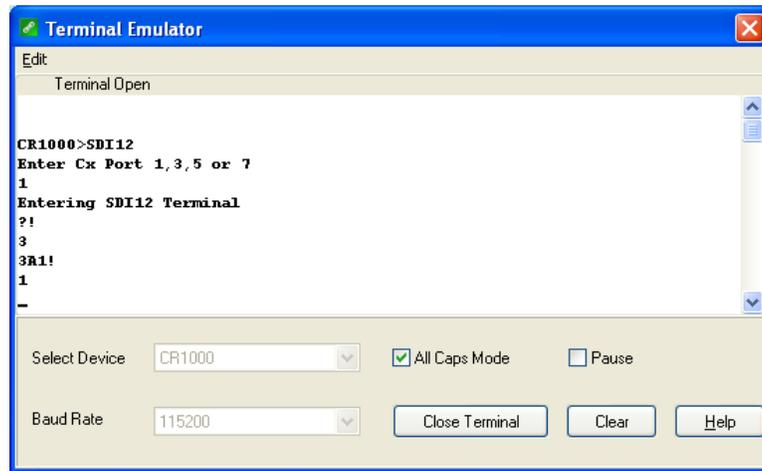

FIGURE D-2. CR1000 example of using the SDI-12 transparent mode to change the SDI-12 address from 3 to 1. Sensor is connected to control port 1.
- To change the SDI-12 address, key in **aAb!** <enter>, where *a* is the current address from the above step and *b* is the new address (see FIGURE D-2). The OBS501 will change its address and the datalogger will respond with the new address. To exit SDI-12 transparent mode, select the **Close Terminal** button.